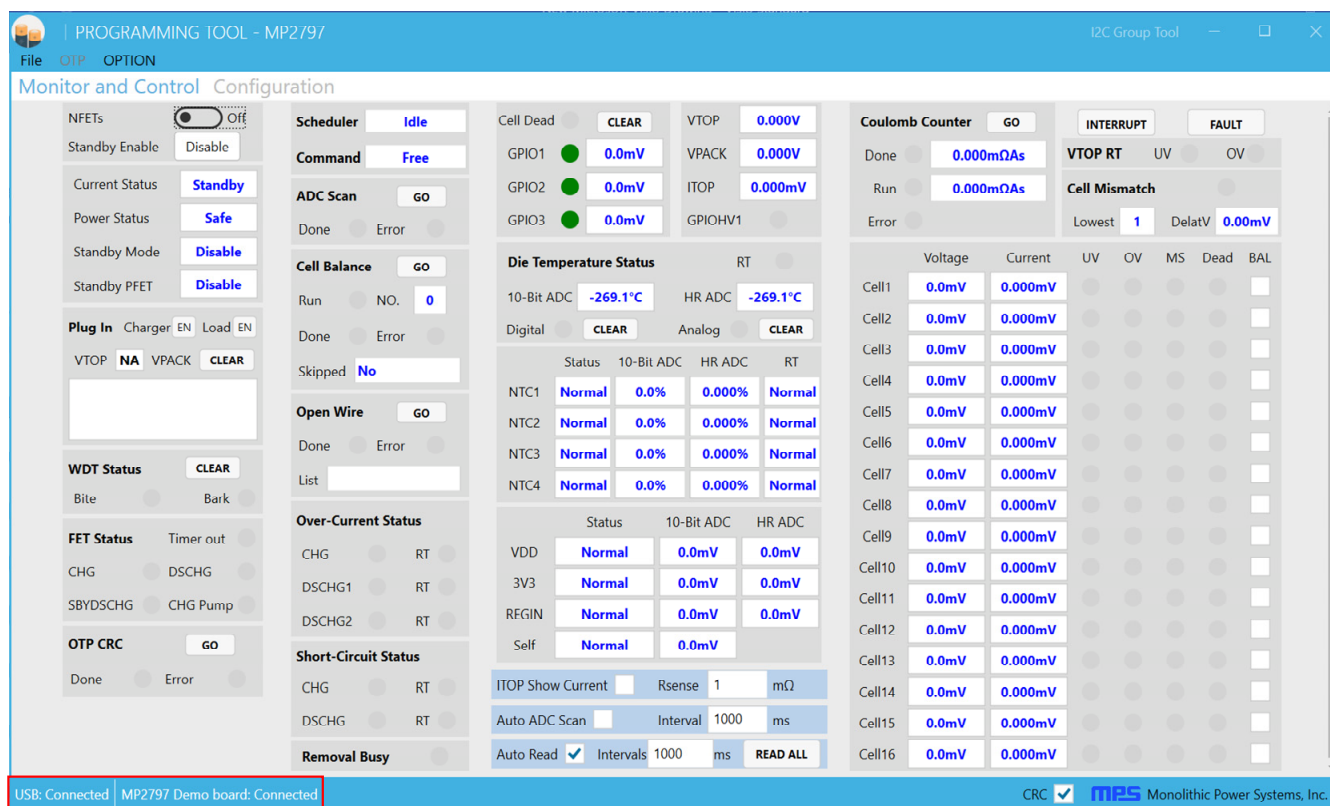

Figure 8: MP2797 Evaluation Software
18. Connect the communication interface to the PC, turn on the computer, and launch the MP2797 GUI evaluation software. Figure 8 shows the software's main window.
4. Turn on the N-channel MOSFETs (N-FETs) then click the “Read All” button. The N-FET status should be displayed in green for CHG, DSG, and CHG Pump, and the power status should be set to active (see Figure 8 on page 8).